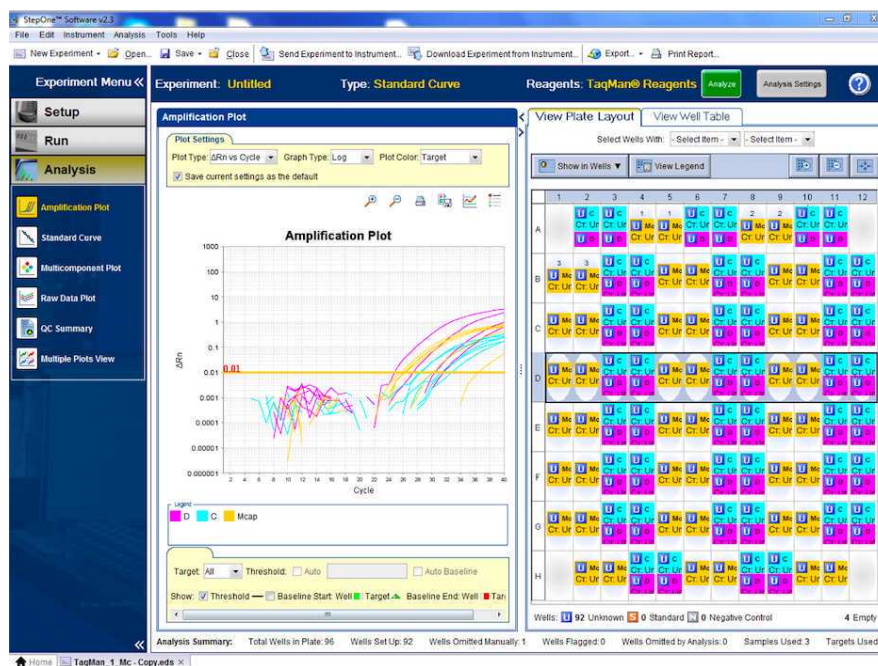

Figure 6. Amplification plot.
- Now the screen should show you the amplification plot (if you don't see the lines, make sure the "Show baseline" and "Show threshold" buttons are clicked at bottom). Also, select "Well" or Target into the Plot Color. Note, you can drag to make the wells larger so you can read the numbers as you would in an Excel sheet. You can also select specific wells, or row or wells. (**Figure 6**).